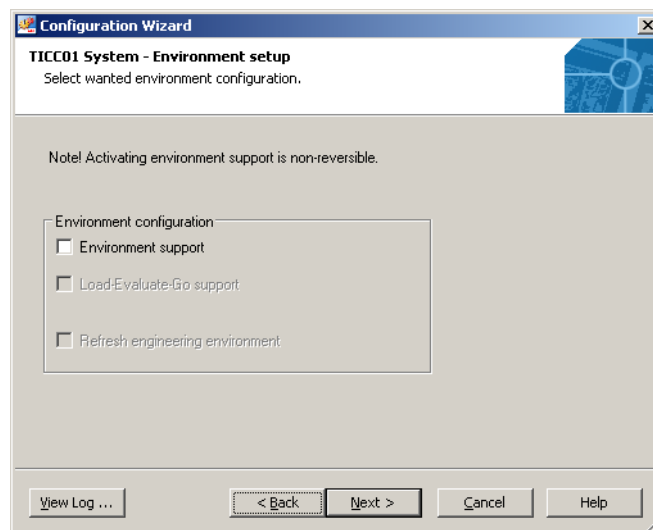

Figure 23. Environment Setup Dialog Box
2. Select the **Environment support** check box if you want to enable version handling. This action is non-reversible. See Figure 23.